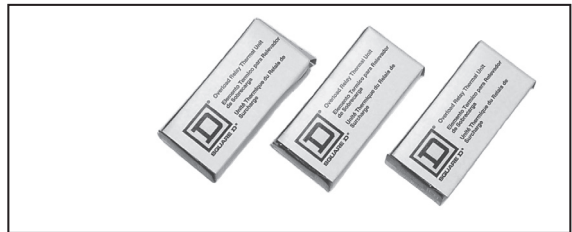

Figure 6 - 460 Volt Conversion Kit - Tire and Lube Series
2. Install the 460 volt conversion kit, part numbers are listed below. Both the coil and the thermal overload elements must be changed (see Figure 6 and replacement parts list for part number).